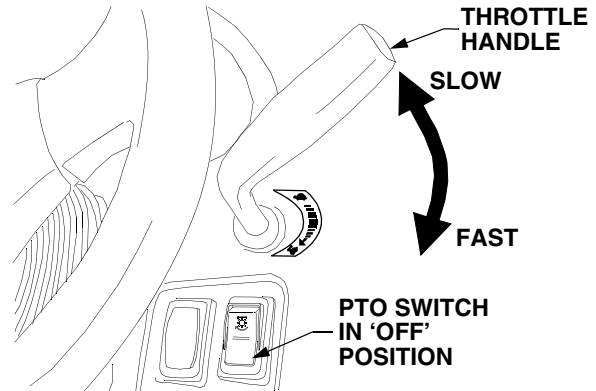

Figure 15
- Move the throttle handle to midway between the "SLOW" and "FAST" position. Refer to Figure 15.